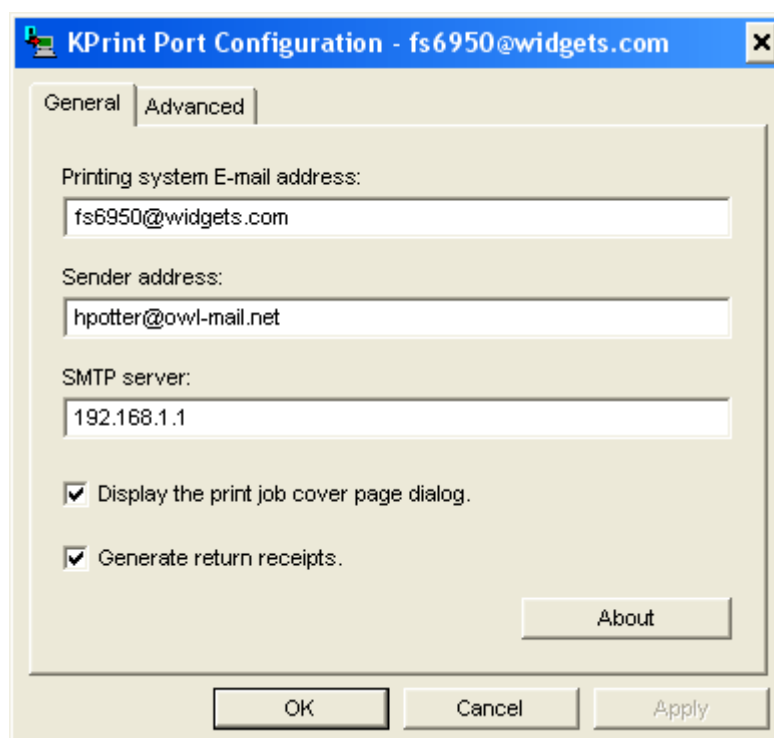

Figure 8. Port Configuration
If **Display print job cover page dialog** is checked for this KPrint port (see Figure 8), then the Cover Page dialog will appear when creating a print job.
2. Click **OK**. The job will be posted to the mail server and retrieved by the IB-23 at the interval defined during POP3 setup. (See Check Interval). If Generate return receipts is on (See Figure 8), the printer will send e-mail confirmation for every print job.